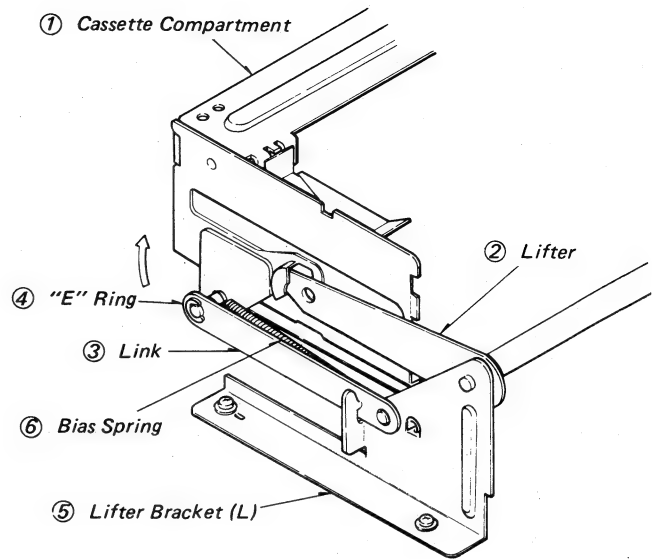
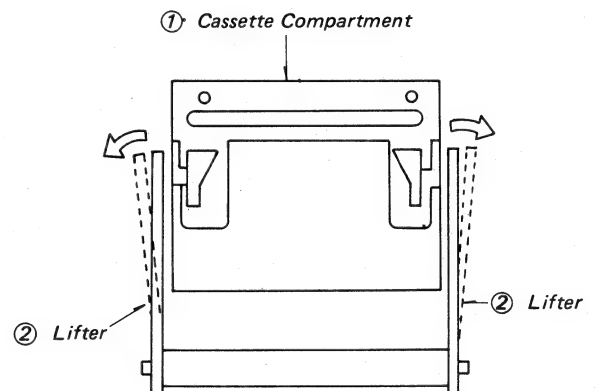

Fig. 5-16 Cassette Compartment Removal and Installation (1).
Fig. 5-17 Cassette Compartment Removal and Installation (2).
1. Remove the "E" ring ④ on the left side of the post on the cassette compartment ①.
2. Pull one end of the link ③ outward from the post, and turn it in the arrow (↗) direction as shown in Fig. 5-16 for removal of the link ③ from the lifter bracket (L) ⑤.
3. Take the bias spring ⑥ out of the post on the cassette compartment ①.
4. Move the cassette compartment ① forward (toward the rear cover) and separate the end of each lifter ② (in the arrow (↖ ↗) directions) as shown in Fig. 5-17 for removal.